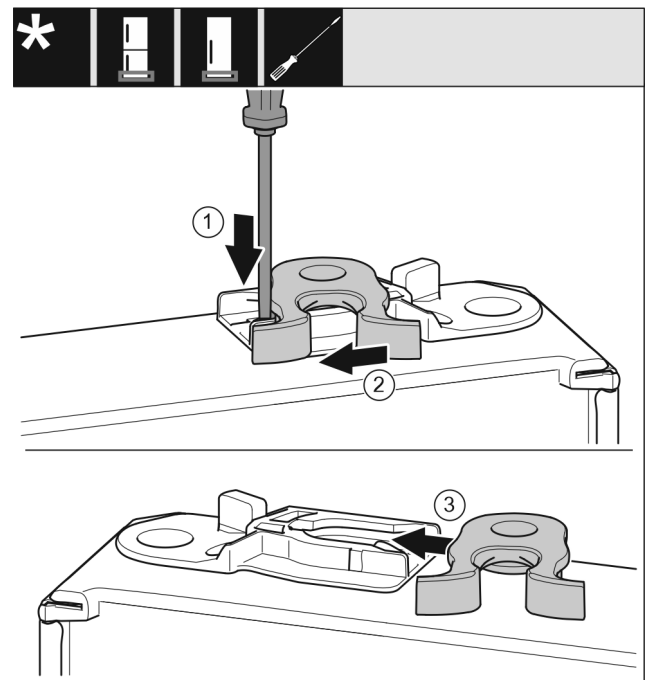

Fig. 18
- Push the lug downwards with a slotted screwdriver. Fig. 18 (1)
- Pull the door latch out of the guide. Fig. 18 (2)
- Push the door latch into the guide on the other side. Fig. 18 (3)